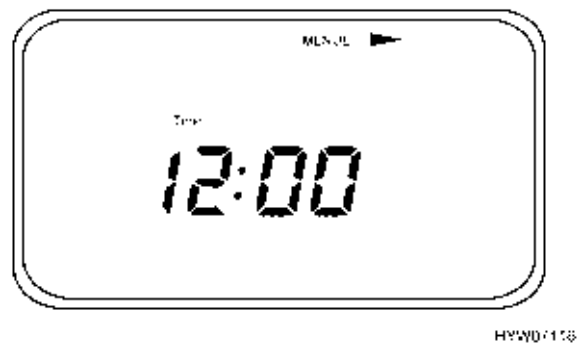

Fig. 113 Setting-menu (page 1)
- Press the "MENUE" key (Fig. 108,3) for more than 3 seconds: the setting-menu (Fig. 113) appears.